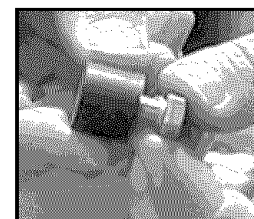

Fig. 4
4. Screw Rubber Caps onto Bolts from the topside of Cart Base and tighten securely. (See Fig 4)